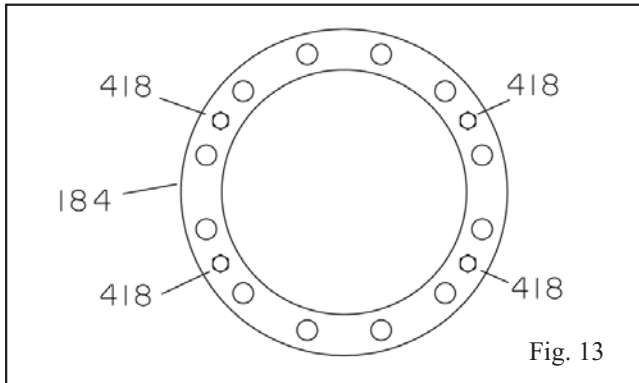

Fig. 13
1. Loosen and remove casing stud nuts (425).
2. Separate back pull-out assembly from casing (100) by tightening jacking bolts (418) provided. Tighten jacking bolts evenly using alternating pattern (Fig. 13).